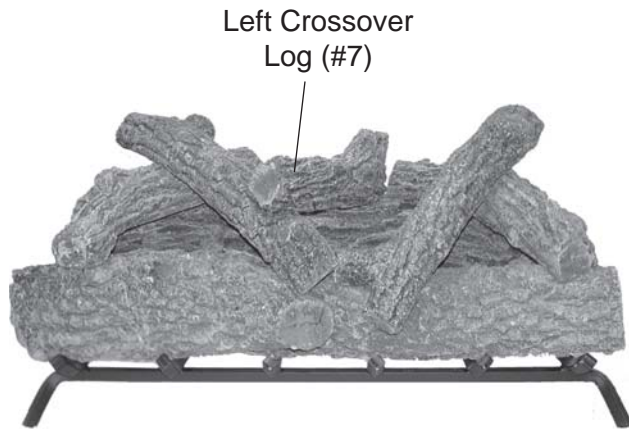

Figure 64 - Placing Left Crossover Log (#7)
7. Place Left Crossover Log #7 on Log #2 and Log #5. See *Figure 64*.